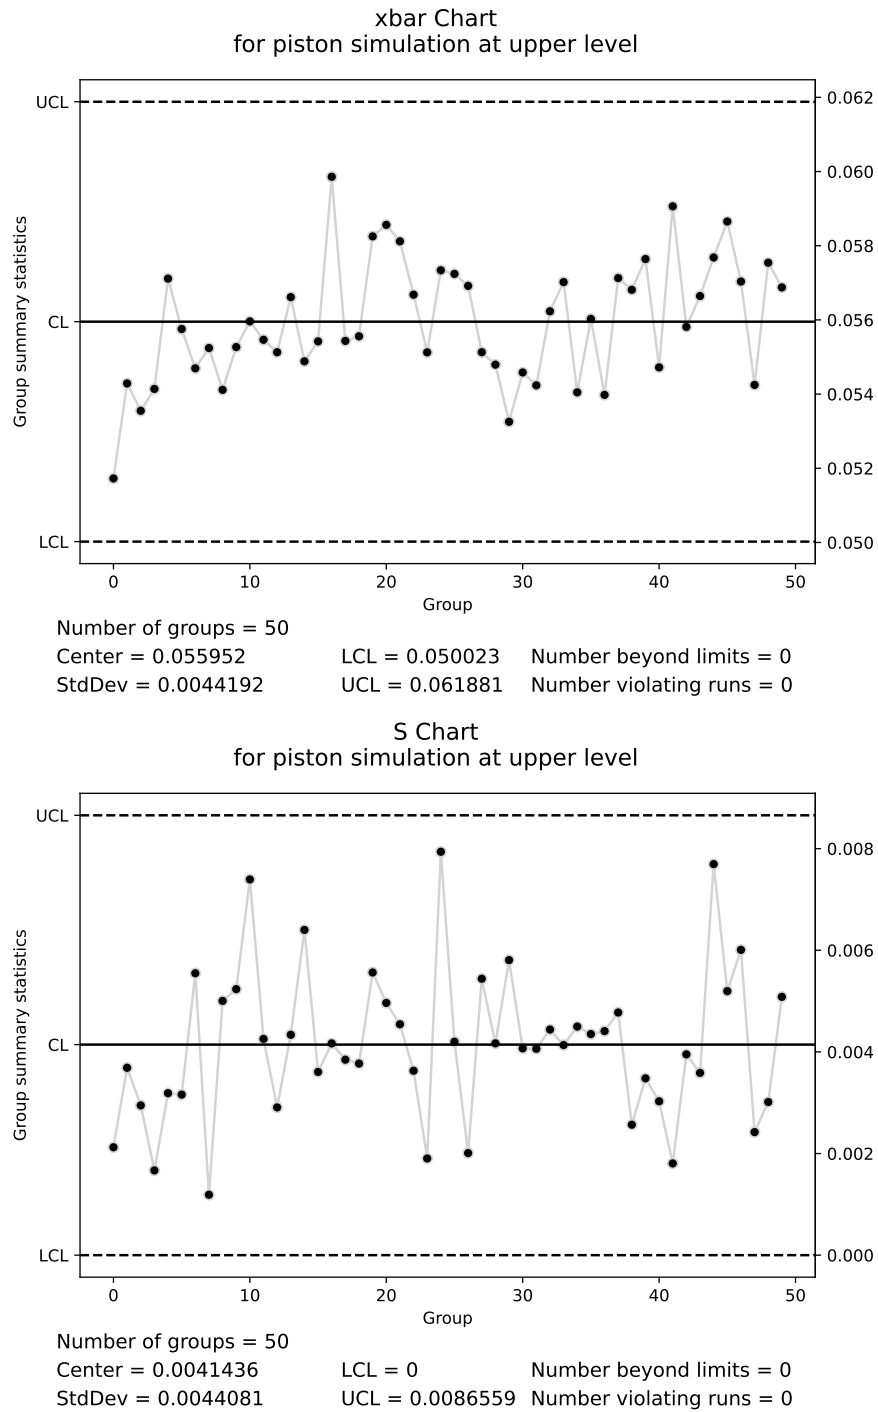

Fig. 3.1:  $\bar{X}$  and  $S$  chart of simulated Piston data (Exercises 3.5 and 3.6)
The test shows no significant runs. The resulting  $\bar{X}$  and  $S$  charts are shown in Fig. 3.1.
**Solution 3.6 (i)** See solution of Exercise 3.5 for this part of the exercise. Fig. 3.1 shows the resulting control charts.